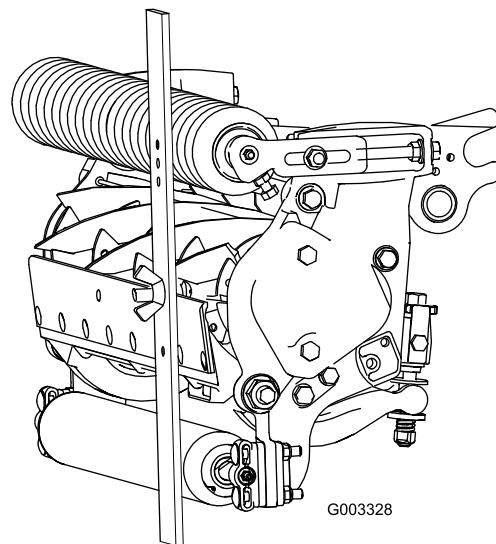

Figure 25
3. Hook the screw head on cutting edge of bedknife and rest rear end of bar on rear roller (Figure 25).
4. Rotate the adjusting screw until the front roller contacts the gauge bar (Figure 25). Adjust both ends of roller until entire roller is parallel to the bedknife.